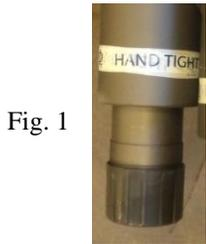

Fig. 1
**CAUTION1:** D&L ships tool connections made-up **HAND TIGHT**—labeled with hand-tight tape on the tool (Fig. 1)—unless stated otherwise. Tighten/torque all connections properly before operating tool.